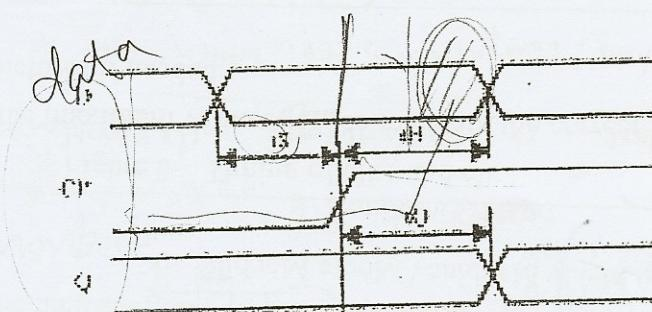

Figure 2. Definition of FF Timing
B. (10 points) Continue from part A. Suppose all FFs are identical. The timing of FF is shown in Figure 2. The setup time and hold time are given by $t_s (>0)$ and $t_h (>0)$ respectively. In addition, the time interval from positive clock edge to data output is t_Q , and the clk1 inverter has a delay of t_{INV} .